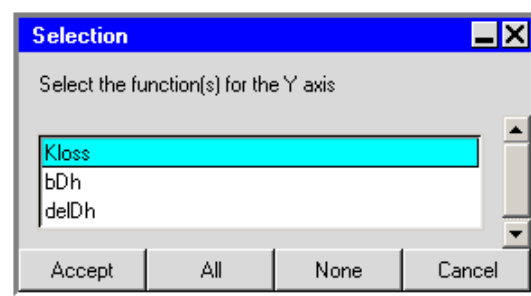

Figure 24.9.3: The Select Panel (y axis selection)
3. In the **Selection** panel (Figure 24.9.3), select the function for the y axis (e.g., **Kloss**) and click **Accept**. This will display the plot (e.g., **Kloss vs Thickness**), as shown in Figure 24.9.4. For more information on modifying the range and appearance of the plot, printing, saving, and reloading plot data, see Section 28.3.2.